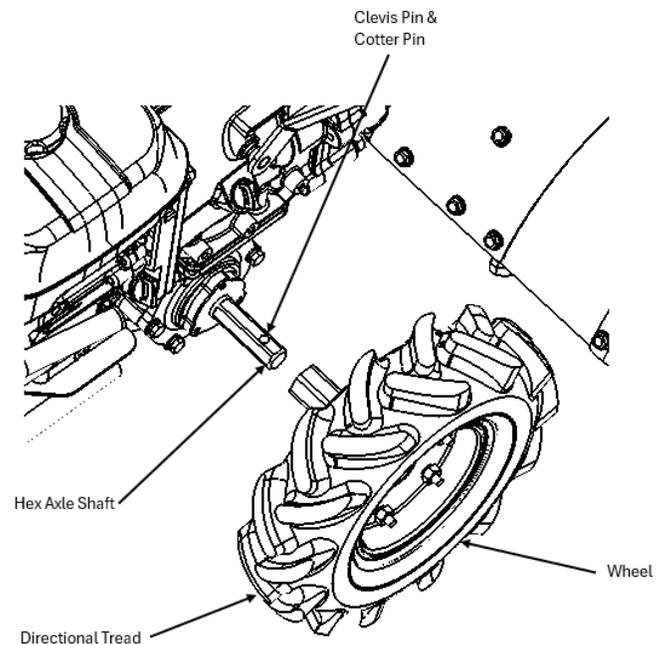

Figure 6
1. Ensure the Directional Tread on each Wheel is toward the front of the machine. **(Figure 6)**
2. Slide the Wheel's Hexagonal tube over the Hexagonal Axle Shaft. **(Figure 6)**